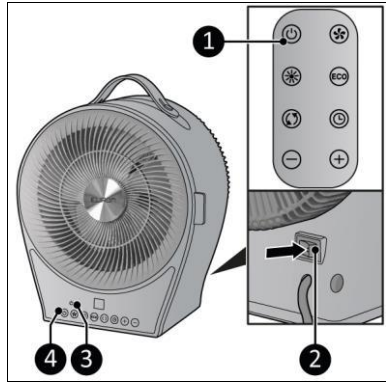

Figure 9
1. Press the ON/OFF switch in the ON position (Figure 9, pos. 2).
2. Press the ON/OFF button on the control panel (Figure 9, pos. 4) or on the remote control (Figure 9, pos. 1).
3. The ON/OFF indicator (Figure 9, pos. 3) switches on.
1. Press the OFF button on the control panel (Figure 9, pos. 4) or on the remote control (Figure 9, pos. 1).